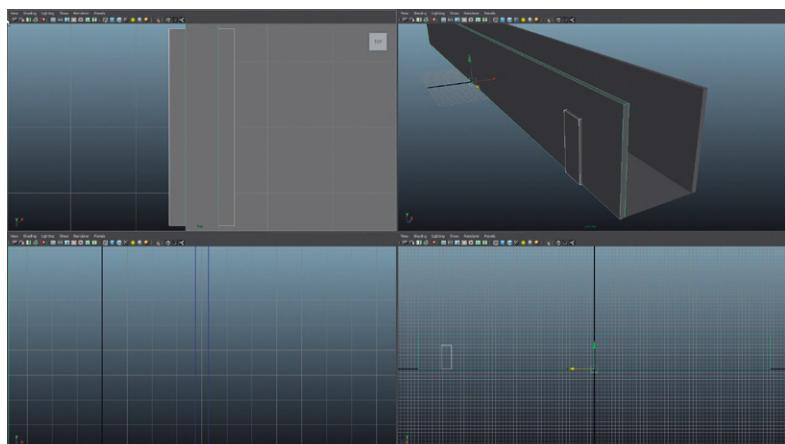

FIG 3.16 Creating and placing the cube that will cut out the door. Note that both the wall and new cube are selected for illustration's sake.
- Step 25: Adjust the manipulator to be at the bottom center of the cube and then snap the cube up to match the floor. Finally, snap it, so that it penetrates the ETM_HallWallWest approximately as shown in Fig. 3.16.